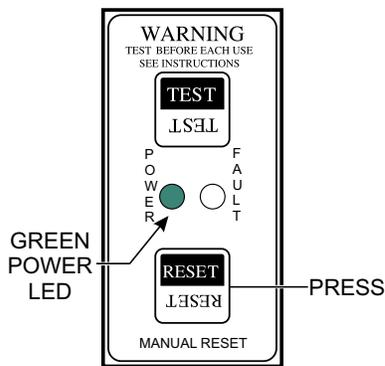

Figure 51. GFCI Module (Green LED ON Reset)
- To restore power, press the RESET button (Figure 51) on the GFCI module and verify that the **red** FAULT LED turns **OFF** and the **green** POWER LED should turn **ON**